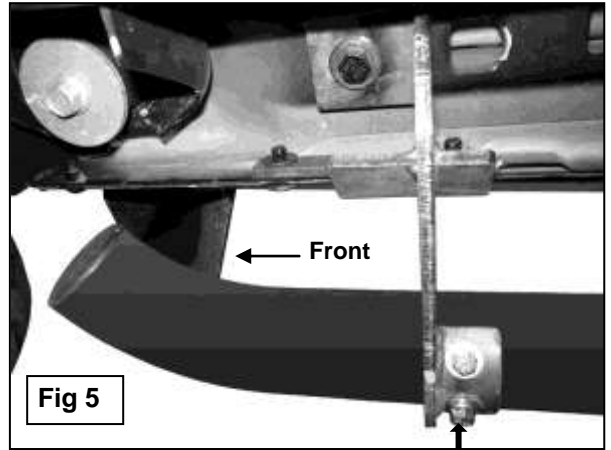

Fig 5
6. Once all three Mounting Brackets are securely in position, place the passenger Sidebar onto the Mounting Brackets and secure it with the included (6)10mm x 30mm Hex Bolts,(6) 10mm Lock Washers and (6)10mm Flat Washers, **(Fig 5)**. **NOTE:** Mounting cradles on Brackets should be inline and pointing toward the rear of the vehicle for proper installation. Snug all hardware but do not tighten at this time.